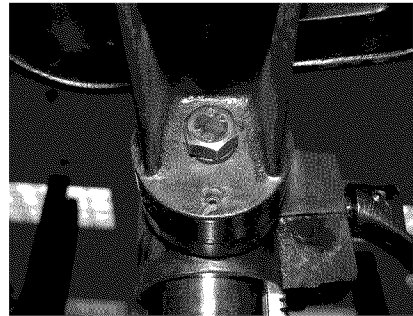

Figure 9
- On underside of table support bracket, back out set screw with supplied hex wrench. Loosen large hex head bolt. **See Fig. 9**